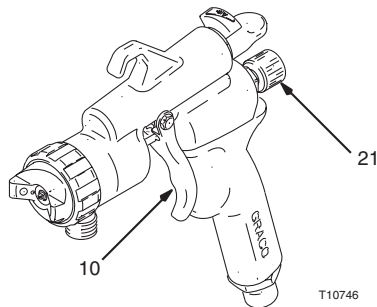

FIG. 2
- 1 To obtain maximum fluid flow, turn fluid adjustment knob (21) counterclockwise until trigger (10) moves freely. Fig. 2.